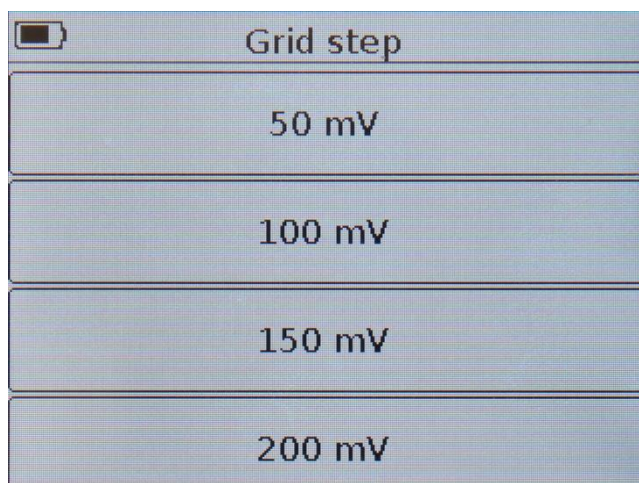

Figure 10.5 – Vertical grid step selection in mV
- Enter the **Plots** menu (Figure 9.6) and click on the field with the chart name. The device screen will display the vertical grid step selection menu in millivolts (mV), figure 10.5.
- To go from the **Mag** plot viewing mode to the vertical grid pitch change menu (Figure 10.5), press and hold the **«PLOT»** button (14) for about two seconds.